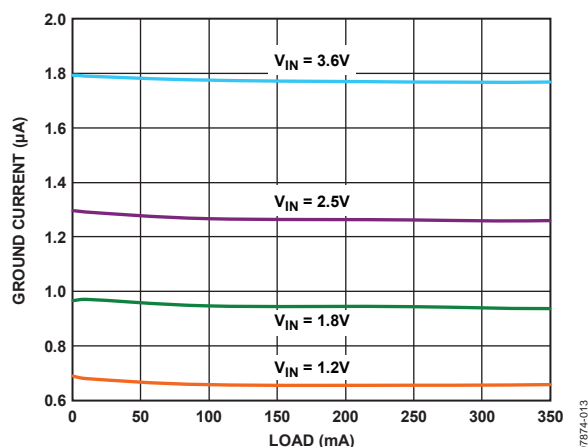

Figure 13. Ground Current vs. Load Current
The major source for ground current in the ADP190 is the 4 M Ω pull-down on the enable (EN) pin. Figure 13 shows typical ground current when $V_{EN} = V_{IN}$ and V_{IN} varies from 1.2 V to 3.6 V.